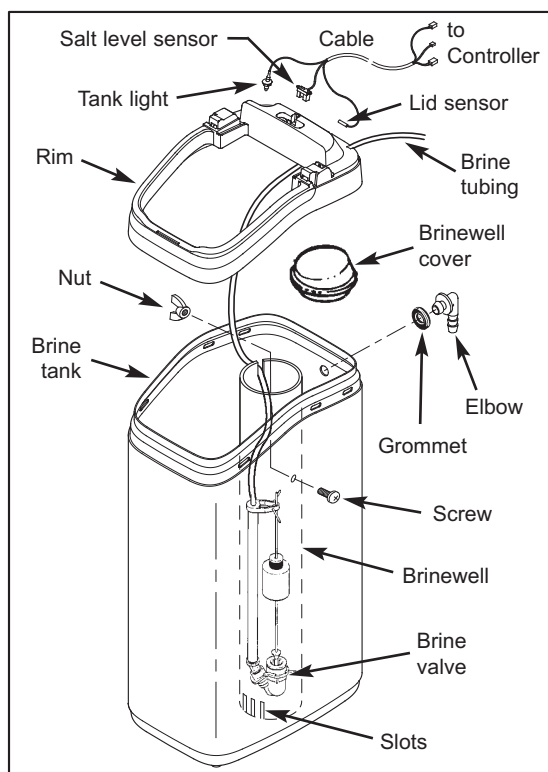

FIG. 4
- Snap the rim into place on the brine tank (See Fig. 4).
c. Lower the brine valve into the brinewell. Push the tubing into the brinewell top slot (Fig. 4) and route it out through the hole in the back of the rim.
f. Locate the brine tank cable, one end of which is shipped plugged into the back of the electronic controller (PWA). At the loose end of this cable, identify the tank light, salt level sensor and cover sensor. Insert each of these three items into their corresponding slots in the rim, as shown in Figure 4.